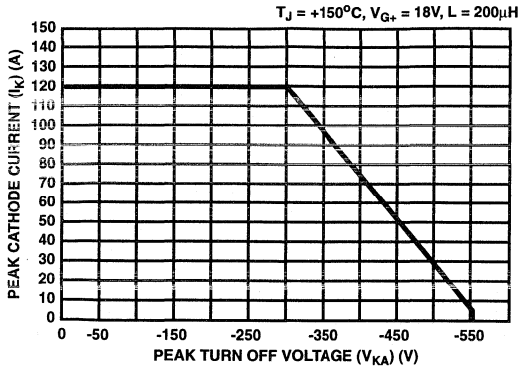

FIGURE 4.12 TYPICAL TURN-OFF CAPABILITY CURVE
- This is the maximum amount of cathode current the device is rated to turn off when commanded by the MCT gate signal. Turn off of the device is guaranteed in the circuit listed in the particular data sheet. This capability is for both inductive and resistive circuits. The volt amp load line in Figure 4.12 must be adhered to during turn-off. Attempting to turn the device off at currents higher than the rated peak controllable current may result in destroying the device. The device may be used at currents greater than the peak controllable current if it is commutated off at a current at or below the peak controllable rating.
P-type MCTs have switching SOA limitations as other P-type semiconductor switches as shown in Figure 4.12. Switching capability is primarily impacted by three things: